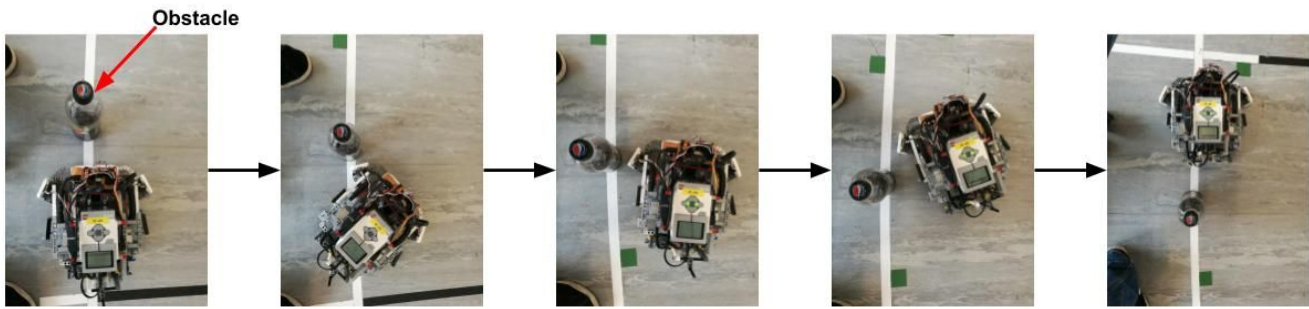

Fig. 8: Obstacle avoidance
3. The obstacle avoidance is completed once it returns to the white line. (See Fig. 8)